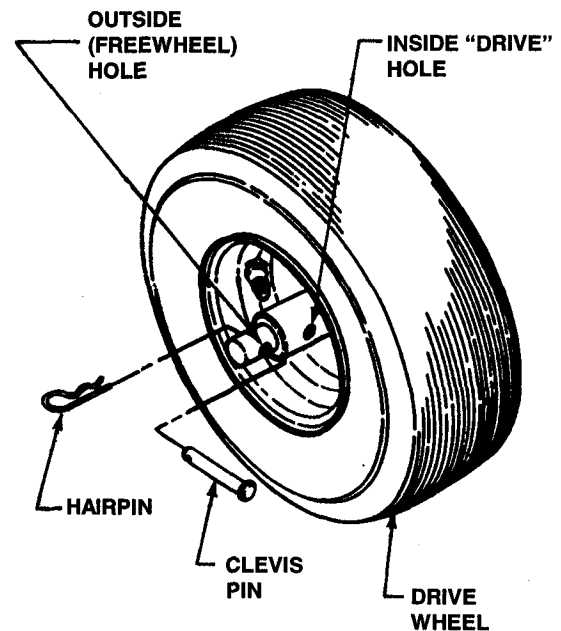

FIGURE 2.9
3. Reinstall clevis pins and hair pins into outer holes to prevent wheel from sliding off of the end of axle. Wheels will rotate freely on axle. **IMPORTANT:** If engine is started the wheel drive will not operate unless wheels and axle are reconnected. Reinstall clevis pins and hair pins into the hubs of the wheels and through axle. See Figure 2.9.